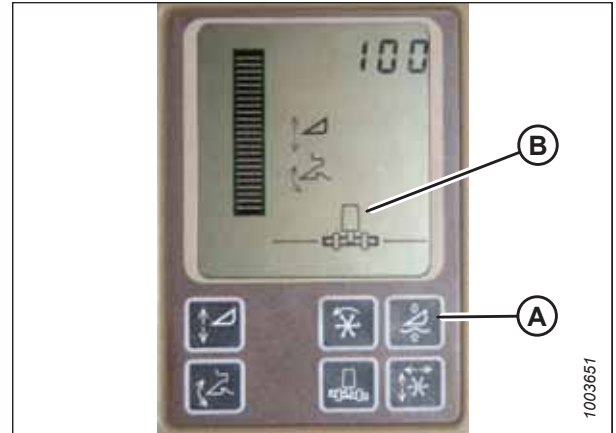

Figure 8.277: John Deere Combine Display
Do **NOT** use active header float function (A) in combination with the MacDon auto header height control (AHHC)—the two systems will counteract one another. Header symbol (B) on the display should **NOT** have a wavy line under it and should appear exactly as shown on the Active Header Control Display in Figure 8.277, page 401.